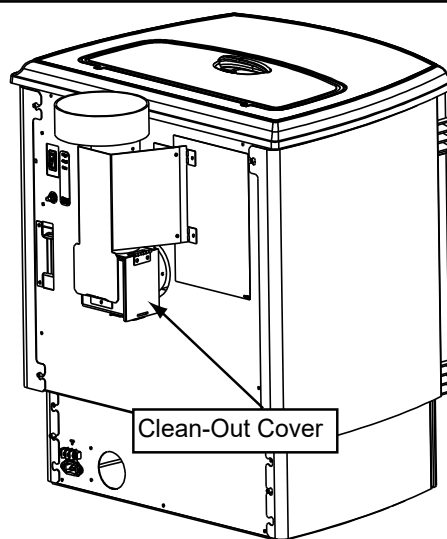

Figure 21.1
- b. Open the clean out cover (**Figure 21.1**).